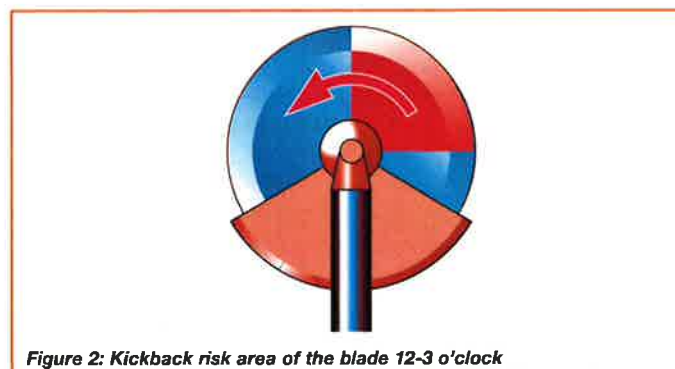

Figure 2: Kickback risk area of the blade 12-3 o'clock
- ❑ 7 Kickback is the uncontrolled backward and/or upward motion of the clearing saw blade. It happens when a section of the blade (see Figure 2) contacts an object such as a log or branch or when the wood pinches the saw blade in the cut.